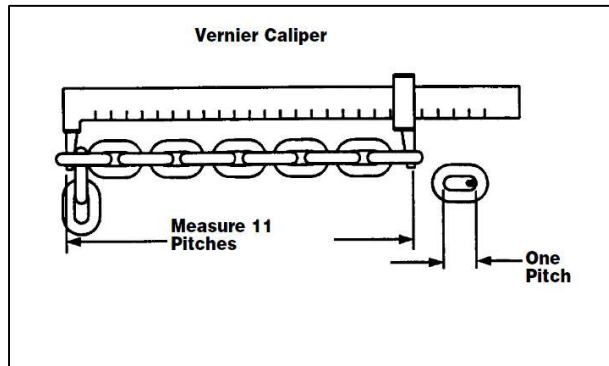

Figure 7.6.1
4. Check load chain for wear at the inter-link contact points. Slacken the chain and move adjacent links apart to one side to observe and inspect for wear at the contact points. If wear is observed, measure the diameter of the chain link at the wear contact point. Case hardness of chain is about 0.015" deep. Chain must be replaced before the case is worn through. Also check chain for elongation using a Vernier caliper (see Figure 7.6.1).
5. Select an unworn, un-stretched section of chain (usually at slack or tail end) and measure and record the length over the number of chain links (pitches) indicated in figure 7.6.1. Measure and record the same length of a worn section in the load side of the chain. Obtain the amount of wear by subtracting the measurement of the unworn section from the measurement of the worn section. If the result (amount of wear) is greater than the amount specified in the “Allowable Chain Wear” (Table 7.6.1) then the chain has elongated beyond the maximum allowable length and must be replaced.